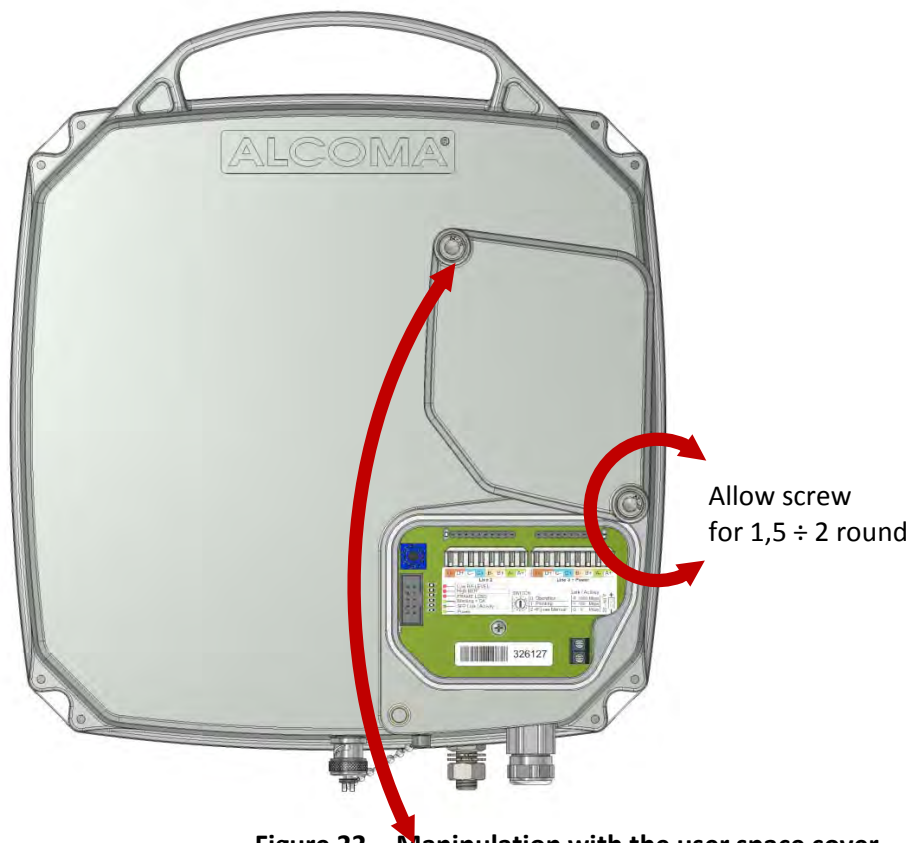

Figure 22 Manipulation with the user space cover
- The front panel with PCB is removed using a screwdriver (figure 6) or the cover of the terminal box space in ODU is opened using an Allen wrench no. 5 (figure 22).